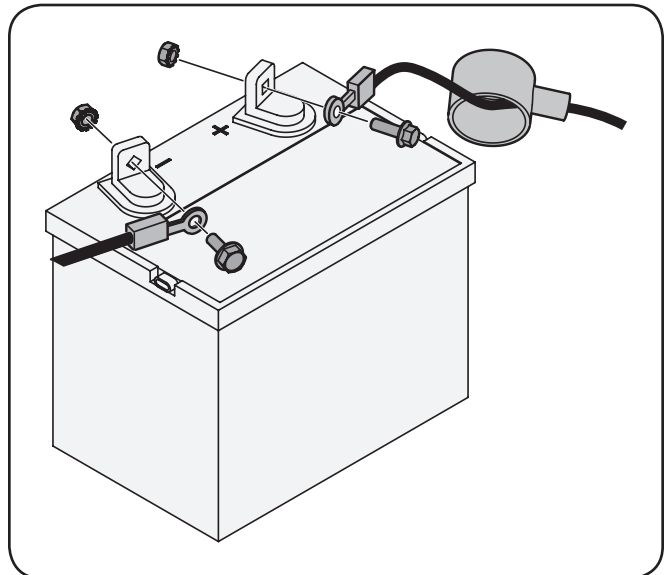

Figure 3-5
1. Remove the plastic cover, if present, from the positive battery terminal and attach the red cable to the positive battery terminal (+) with the bolt and hex nut. See Fig. 3-5.
2. Remove the plastic cover, if present, from the negative battery terminal and attach the black cable to the negative battery terminal (-) with the bolt and hex nut. See Fig. 3-5.